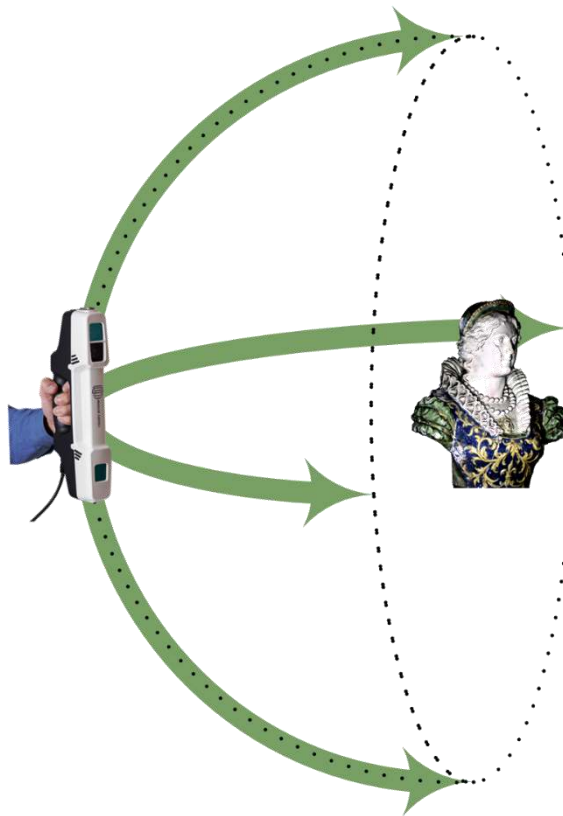

Figure 278 – Scanning Movements of the Camera Around the Object
15. Move the camera on the hemisphere’s veneer surrounding the scanned object, as demonstrated in Figure 278 below: